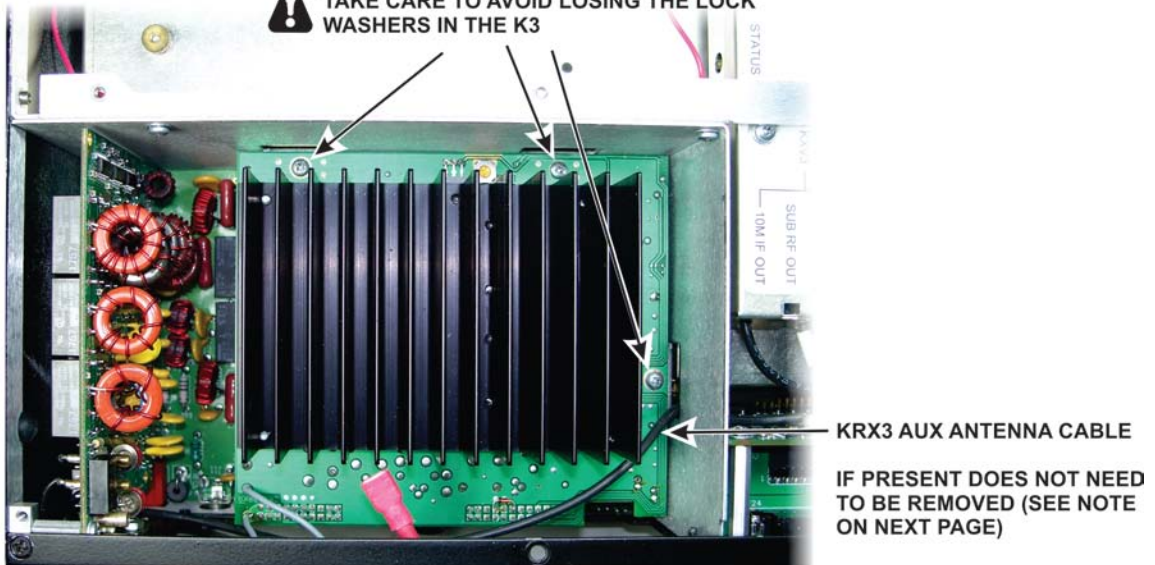

**Figure 4. Removing the Fan Panel.**
☐ Remove the KPA3 fan panel and set it aside (see Figure 4). If you have a K3/10, there will be a blank panel in place of the fan panel that also removes with four screws. Remove the panel and skip the next two steps.
- Replace the fan panel (see Figure 4).